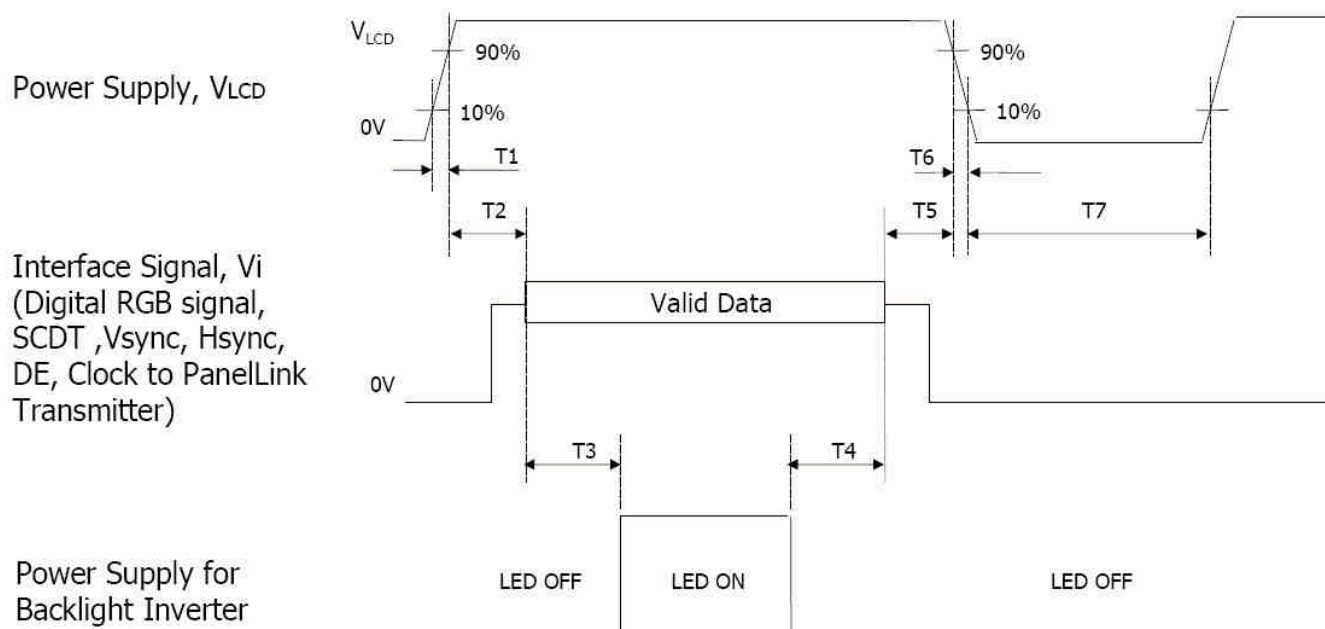

FIG.5 Power sequence
**[Figure 5] Backlight connector View**